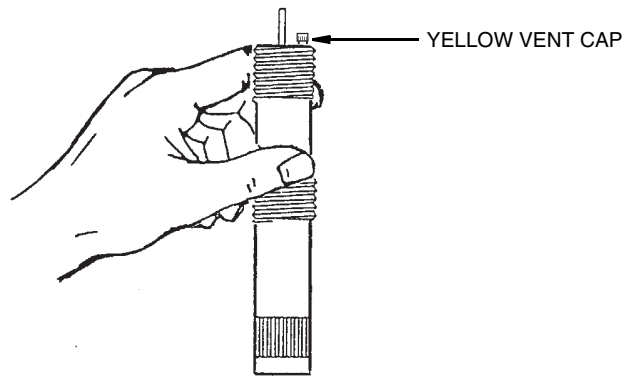

Figure 29. Replacement of Vent Cap
11. Install vent cap on vent bleed tube and tighten down finger tight (see Figure 29).